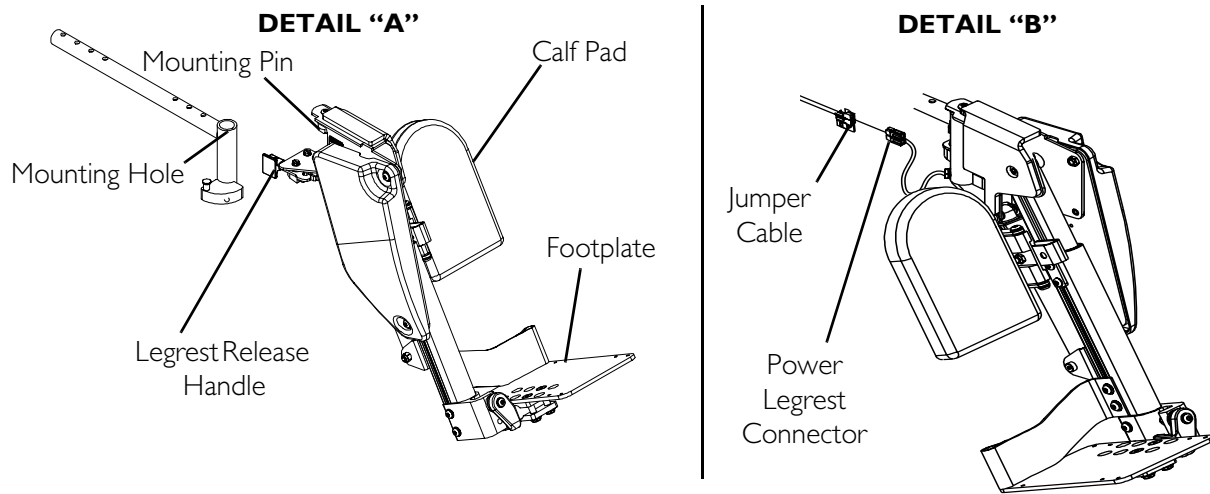

FIGURE 6.22 Installing/Removing the Power Elevating Legrests
NOTE: For this procedure, refer to FIGURE 6.22.
1. Turn power legrest to side (open footplate is perpendicular to wheelchair) (Detail “A” of FIGURE 6.22).
2. Insert the mounting pin of power legrest into the mounting hole of the seat frame (Detail “A” of FIGURE 6.22).
5. Connect power legrest connector to jumper cable (Detail “B” of FIGURE 6.22).